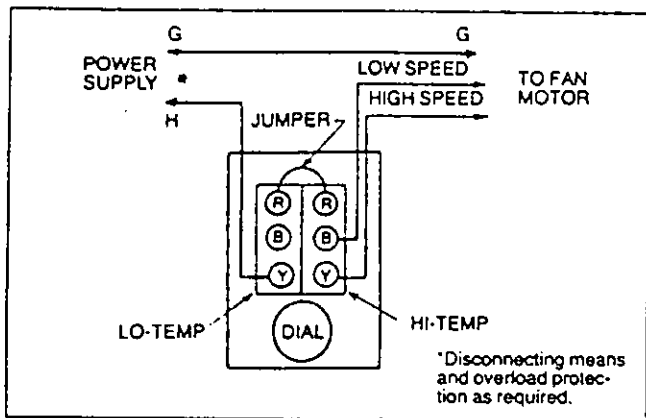
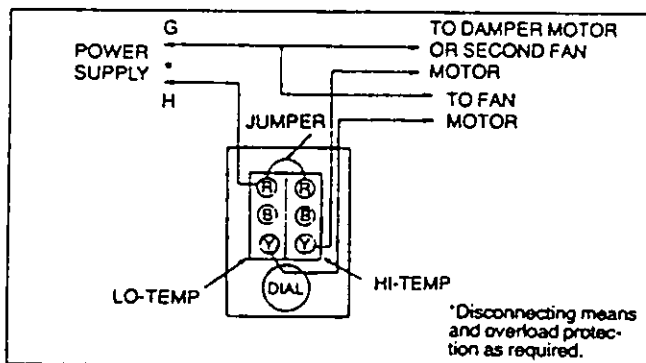

Figure 6 — Model 2E207 in typical two-speed ventilating fan control circuit.
Figure 7 — Model 2E207 in control of single speed ventilating fan and volume-increase damper motor.
Figure 6 shows typical wiring for the control of a two speed ventilating fan. When control temperature element reaches the dial settings of Model 2E207, the low temperature switch starts the fan on low speed. If the space temperature continues to rise, the high temperature switch supplies power to the high speed motor winding while disconnecting the low speed winding.
Figure 7 shows Model 2E207 in a typical hook-up for a two-volume fan application. The fan will start when the temperature element reaches the dial setting. If the temperature continues to rise, the damper motor will be energized by the high temperature switch.
2. Model 2E207. If hook-up is similar to Figure 6, fan should start at approximately space temperature and should change to high speed as the dial is turned counterclockwise to a lower temperature setting. If wiring is similar to Figure 7, the damper should open as the dial is turned counterclockwise. The devices should act in reverse sequence when the dial is turned clockwise.